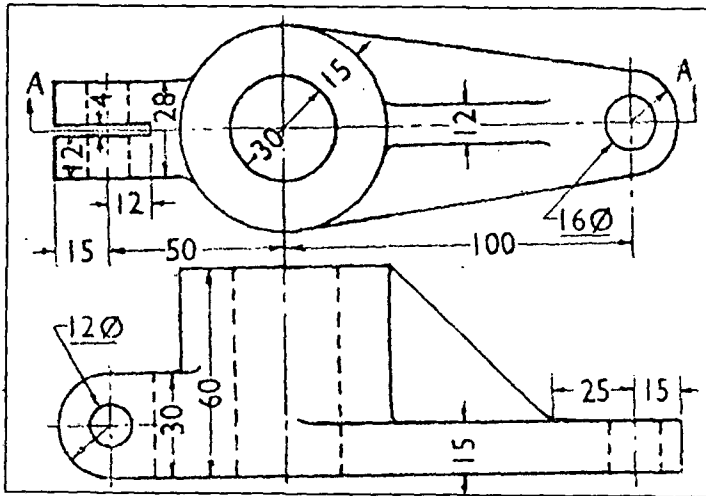

Fig.13.a
13.a Design a Milling fixture for milling the slot of 4mm width in the component shown in Fig. 13.a.